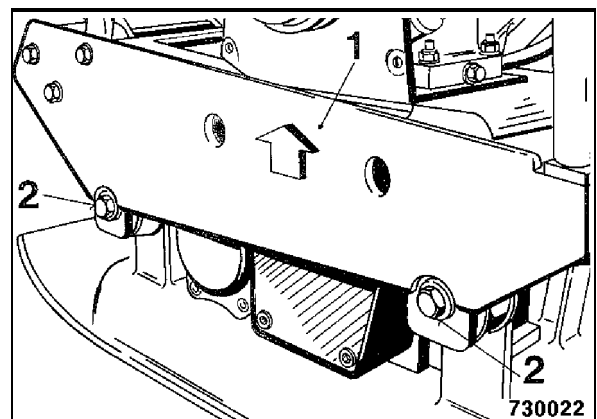

Fig. 39
- Loosen the fastening screws 2 (Fig. 39) on the V-belt side first.
- Pull the engine carrier plate (1) up and tighten the fastening screws.